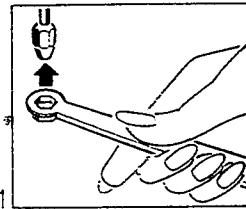

Fig. 1
2. Remove nozzle by means of the hexagonal opening at the end of the measuring spoon. Turn right to left to unscrew the nozzle (Fig. 1+2).